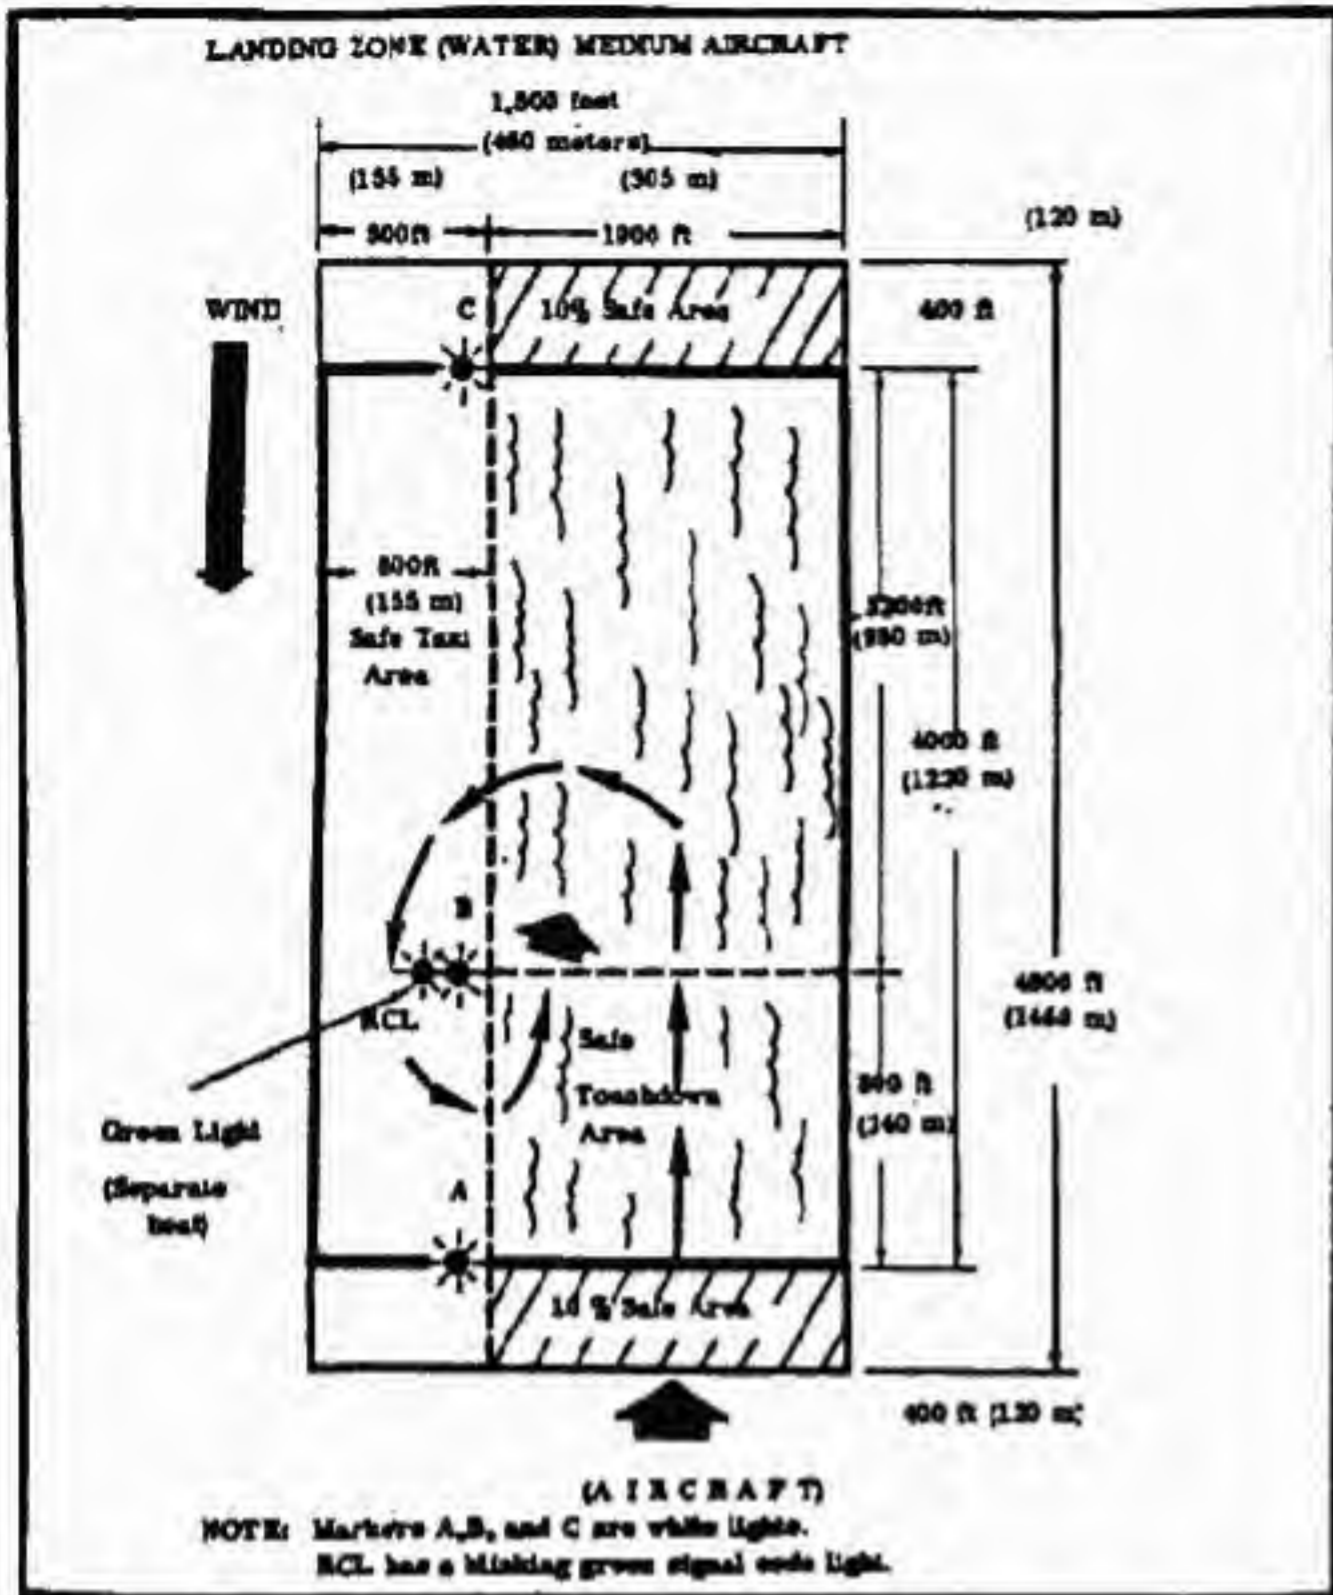

Figure 18. Landing Zone (water) medium aircraft (night operations).
- (1) Size. For medium amphibious or seaplane-type aircraft, the required length is 4,000 feet (1,220 meters) with a minimum width of 1,500 feet (460 meters). For light aircraft, the required length is 2,000 feet (615 meters) long and 500 feet (155 meters) wide. As with land LZ's, an additional safe area equal to 10 percent of the airstrip length is required on each end. (Figure 18)
- (2) Surface. Minimum water depth is 6 feet (2 meters). The entire landing zone must be free of obstructions such as boulders, rock ledges, shoals, waterlogged boats, or sunken pilings within 6 feet of the surface, and the surface must be cleared of all floating objects such as logs, debris, or moored craft.
- (3) Wind.
- (4) Tide. The state of the tide should have no bearing on the suitability of the landing area.
- (5) Water/air temperature. Due to the danger of icing, water and air temperatures must conform to the following minimums: